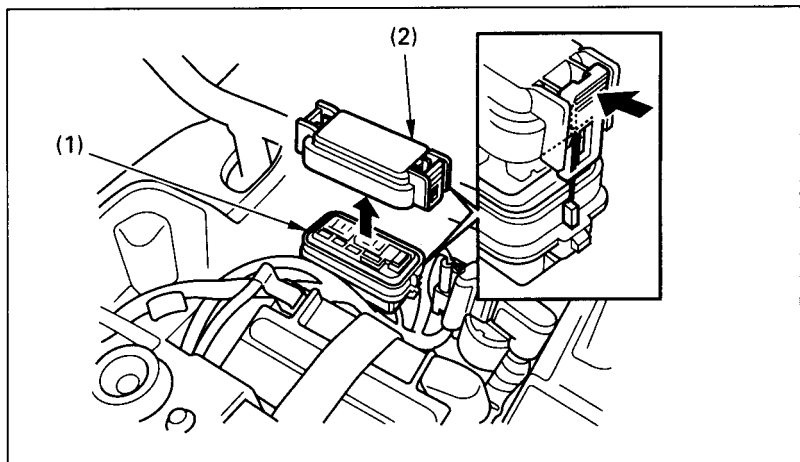

Fig. 4-19
As illustrated in Fig.4-19 , the fuse box (1) is located in the battery compartment. The main fuse, main fuse (electric shift motor), sub fuses and spare fuses are located in the fuse box.